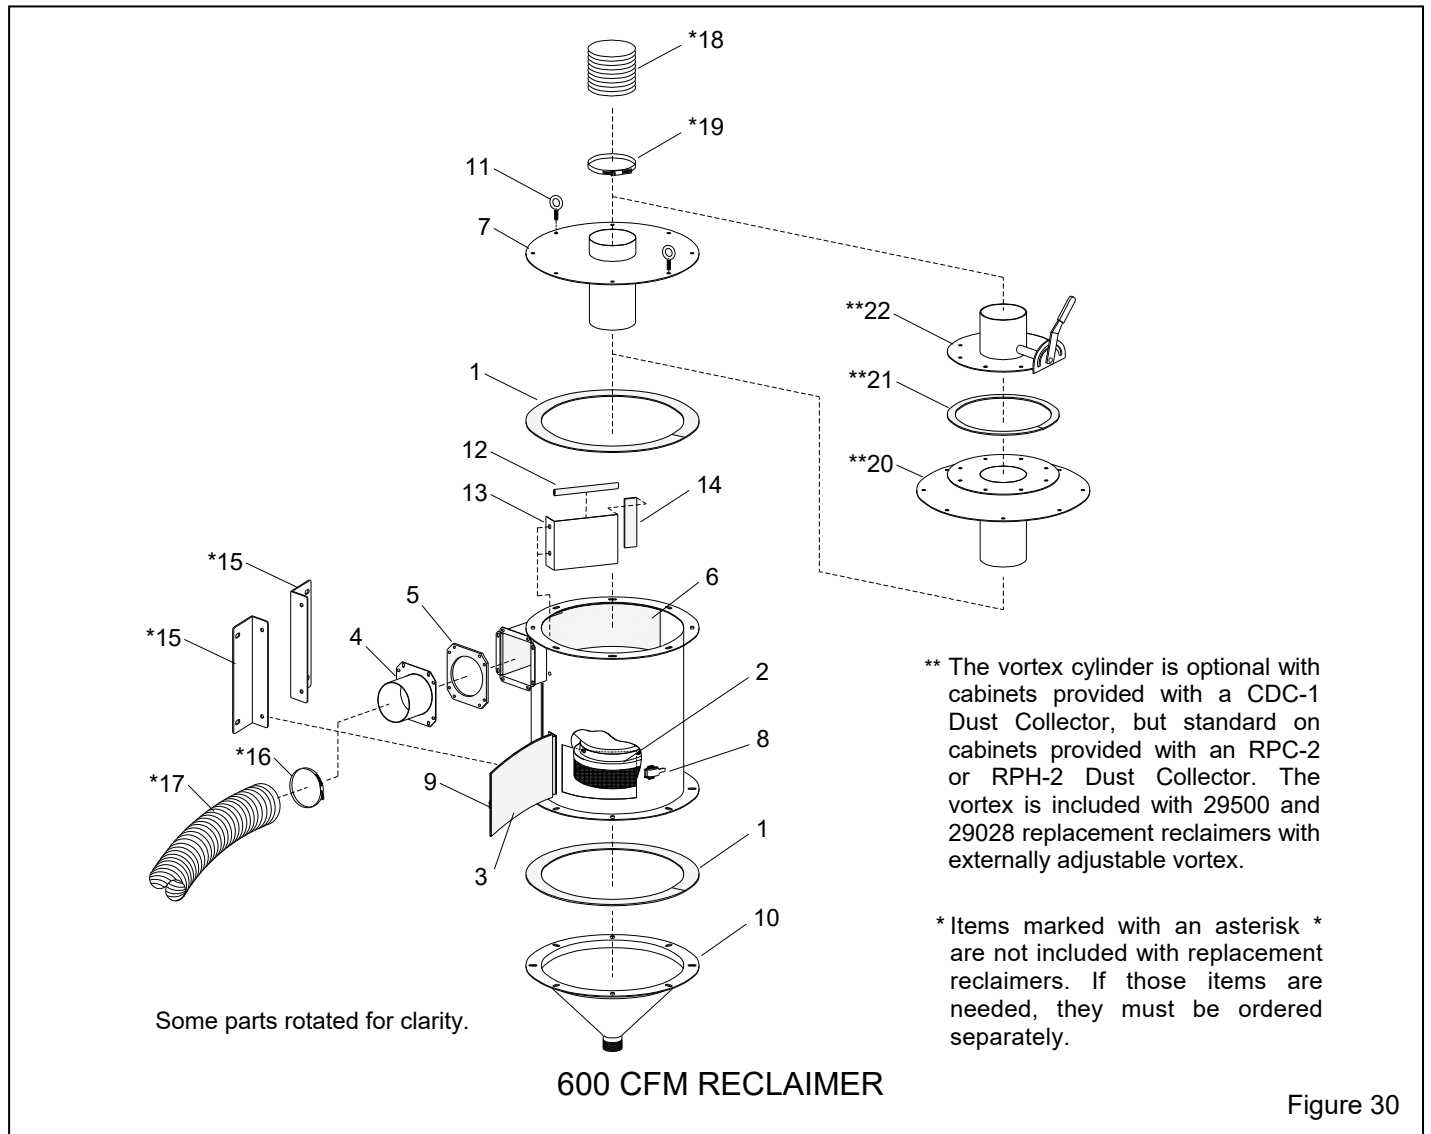

Figure 30
9.11 600 CFM Modular Reclaimer Replacement Parts – Figure 30